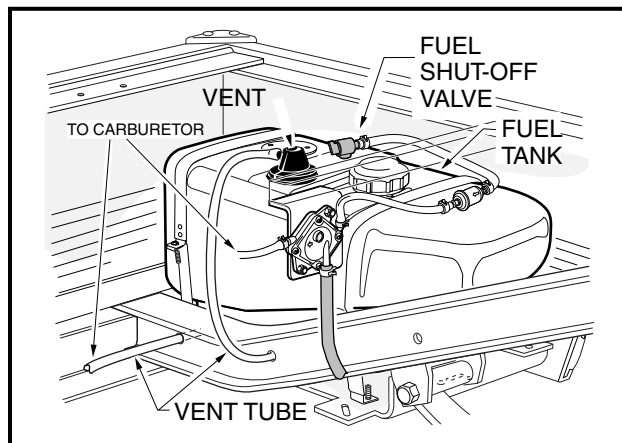
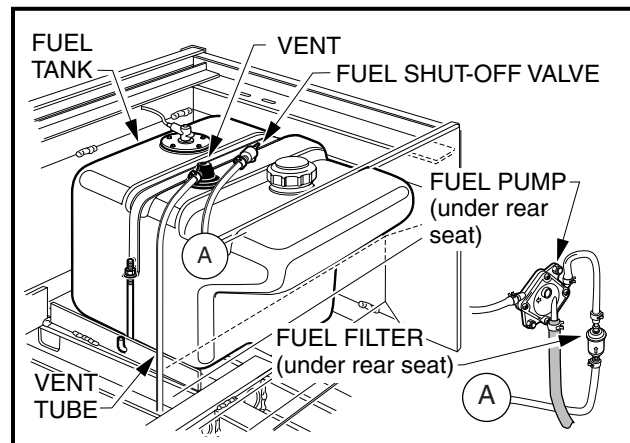

Figure 10-11 Turf/Carryall 272 Fuel Tank
Figure 10-12 Carryall 472 Fuel Tank
- If the vehicle has an all-weather enclosure installed, the gas tank must be properly vented as shown (**Figure 10-11, Page 10-8**).
1. Fill the fuel tank with fresh, unleaded gasoline only (Figure 10-11, Page 10-8 or Figure 10-12, Page 10-8). See preceding **DANGER**, **CAUTION** and **NOTE**.